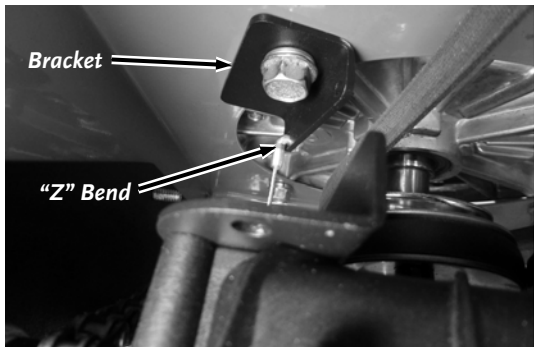

Figure 35
5. Disconnect the Z-bend end of the Drive Cable from the Bracket (Figure 35).
14. Reconnect the Z-bend end of the Drive Cable into the Bracket hole (**Figure 35**).